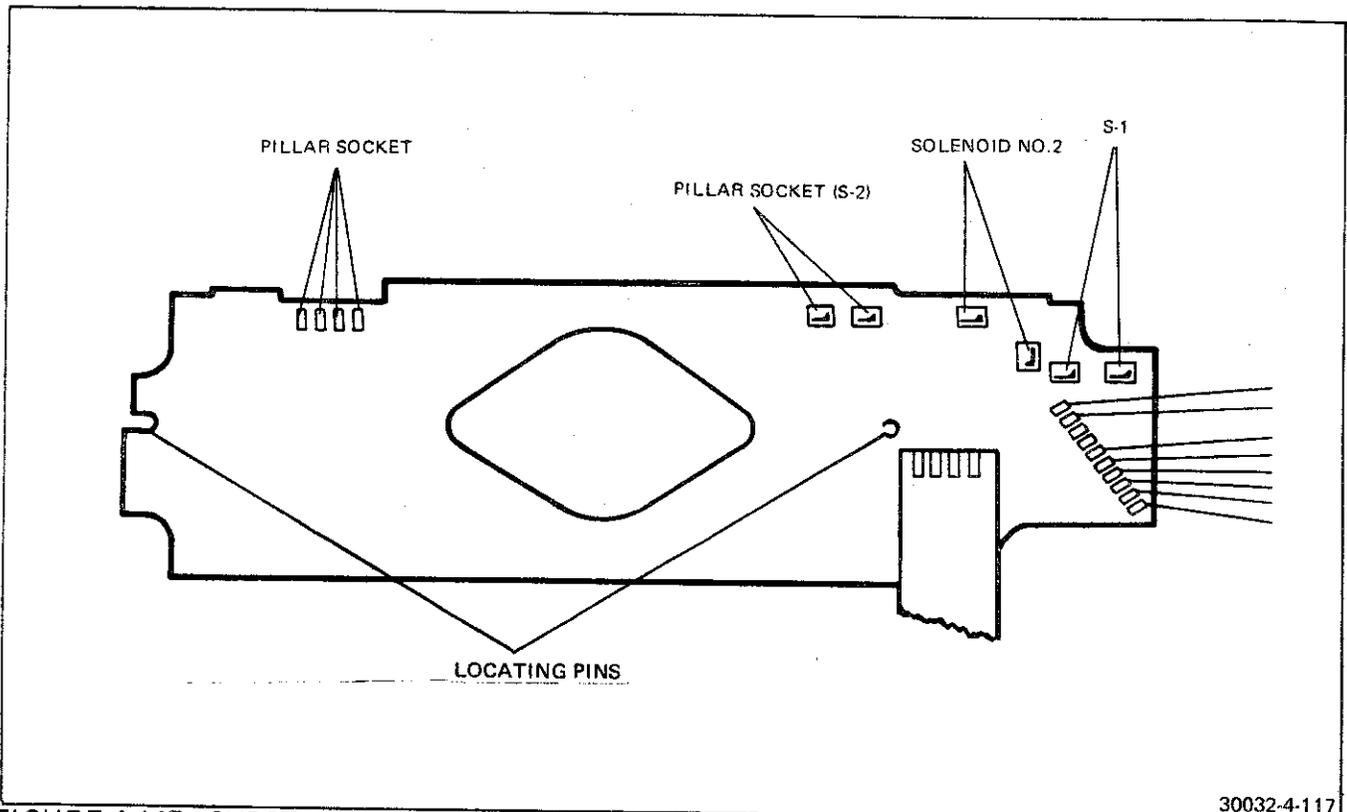

FIGURE 4-117 SUBSTRATE SOLDER CONNECTIONS
- b. Align locating pins and contact tabs and carefully press the substrate into place. See Figure 4-117.